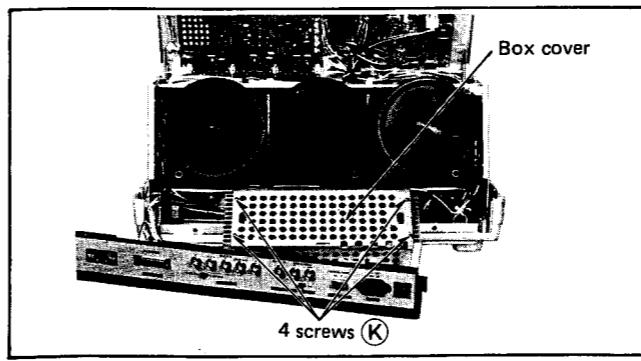

Fig. 11
- Remove 4 screws **K** in fig. 11, and lift the box cover.